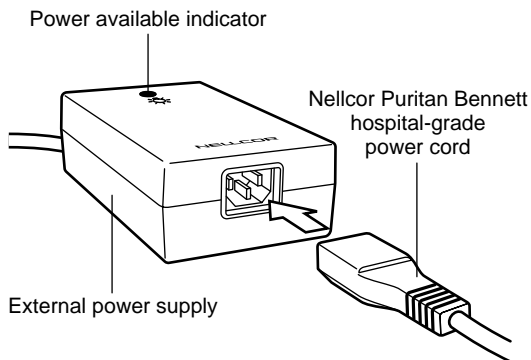

Figure 9: Connecting Power Cord
4. Connect the Nellcor Puritan Bennett power cord to the external power supply as shown in Figure 9.